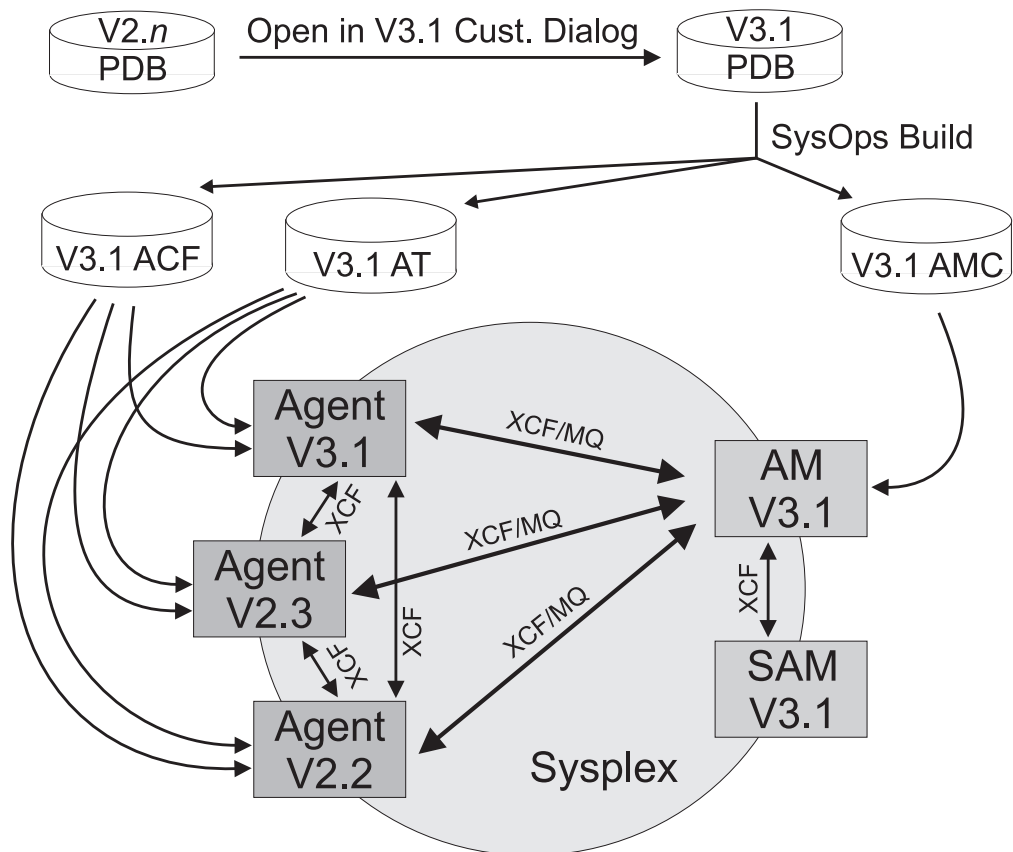

Figure 28. Coexistence of SA OS/390 2.2, SA z/OS 2.3, and SA z/OS 3.1
- SA z/OS 3.1 systems can coexist with SA z/OS 2.3 and SA OS/390 2.2 systems within the same sysplex. Figure 28 illustrates this: it shows a sysplex with three automated systems and a separate automation manager (and its secondary).